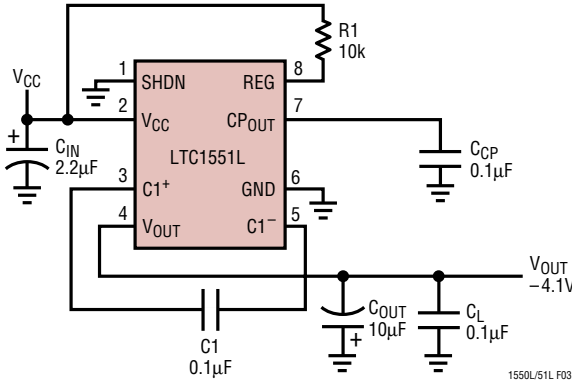
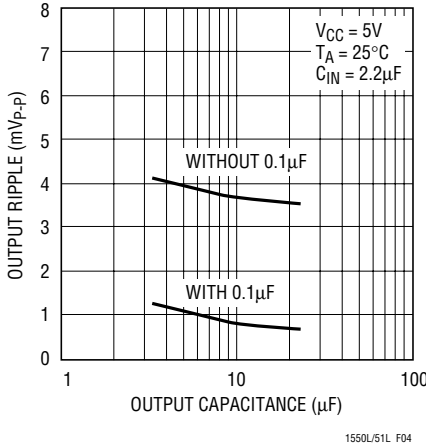
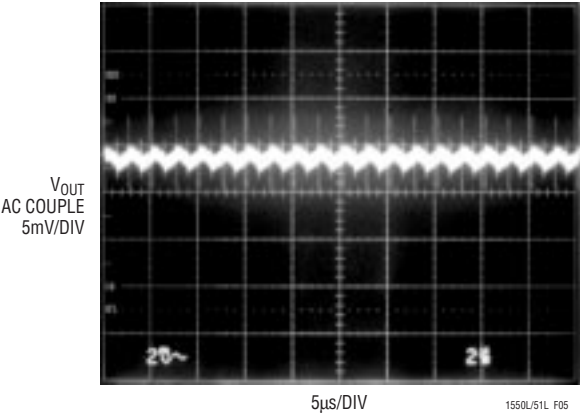

Figure 3. Output Ripple Test Circuit
Figure 4. Output Ripple vs Output Capacitance
Figure 5. Output Ripple with 10μF Tantalum Capacitor
**Load Transient Response (See Figure 3, VCC = 5V)**
**Line Transient Response (See Figure 3, IL = 10mA)**
Output Spectrum (See Figure 3)
Spot Noise (See Figure 3)
Figure 4 shows the effect of using different output capacitor values on the LTC1550L/LTC1551L output ripple. These curves are taken using the LTC1551L circuit in Figure 3, with CIN = 2.2μF and ILOAD = 5mA. The upper curve shows the performance with a standard tantalum capacitor alone and the lower curve shows that of the tantalum capacitor in parallel with a 0.1μF ceramic capacitor. As a general rule, larger output capacitors provide lower output ripple. To keep output voltage ripple below 1mVP-P, 10μF, or greater, in parallel with a 0.1μF ceramic capacitor is required. To guarantee loop stability under all conditions, a minimum of 4.7μF is required at the output.
Figure 4 shows a marked decrease in peak-to-peak output ripple when a 0.1μF ceramic capacitor is added in parallel with the tantalum output capacitor. The additional ripple with the tantalum output capacitor alone is mostly very high order harmonics of the 900kHz clock, which appear as sharp "spikes" at the output. The energy in these spikes is very small and they do not contribute to the RMS output voltage, but their peak-to-peak amplitude can be several millivolts under some conditions. A 0.1μF ceramic capacitor has significantly lower impedance at the spike frequency than a large tantalum capacitor, and eliminates most of these left-over switching spikes that the tantalum capacitor leaves behind. Figure 5 and 6 show scope photos of the output of Figure 4 with and without the additional ceramic capacitor at the output.
$C1$ . Surface mount tantalum or ceramic capacitors with low ESR generally provide adequate performance. Figure 7 shows the LTC1550L/LTC1551L peak-to-peak output ripple vs  $C_{IN}$ , taken using the test circuit in Figure 3 with  $I_{LOAD}$  set at 5mA.  $C_{OUT}$  is a  $10\mu\text{F}$  in parallel with a  $0.1\mu\text{F}$  ceramic capacitor.